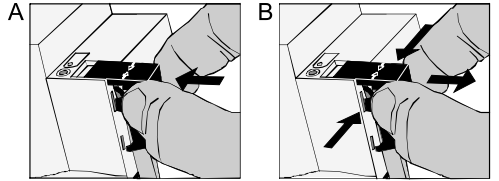

Fig. 7: Protective cap
- Snap the cap onto the bus terminal (Fig. 7, A).
- Press the sides and pull out the cap (Fig. 7, B).